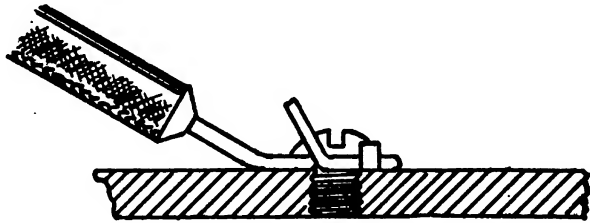

FIGURE 48.—Fastening wire to upset screws.
*d. Upset screws.*—Many times the screws have been upset (end enlarged or turned over by hammer) so that they cannot be completely removed. This is to prevent them from being dropped and lost. In this case the ends are prepared as described above except the bare end is made slightly longer. This bare end is then bent around the screw, usually by the fingers, and snipped off close with the diagonal pliers. (See fig. 48.)